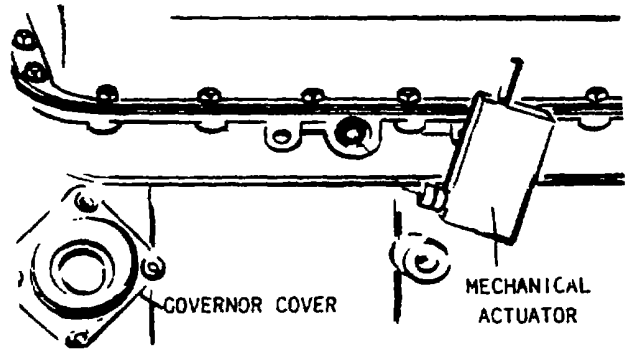

Fig. 5-4. Removing vacuum modulator
(3) Remove the mechanical actuator (fig. 5-4). Remove the sealing from the mechanical actuator.
(4) Remove the mechanical actuator rod from the transmission case (fig. 5-4). Refer to paragraph 3-16b for inspection of the mechanical actuator.
(1) Remove the four bolts that retain the governor cover (fig. 5-4). Remove the cover.